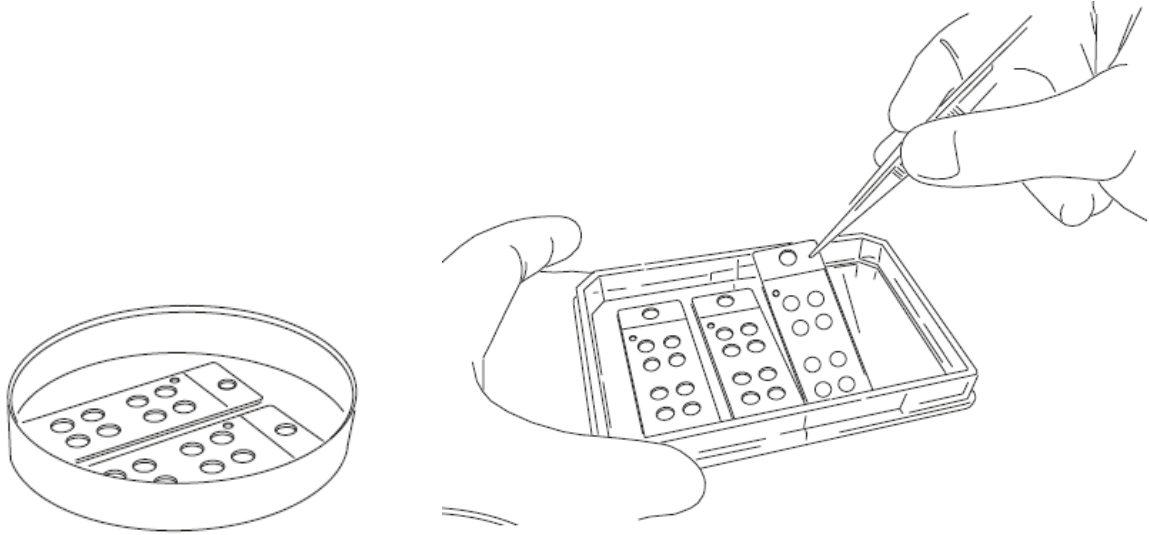

Figure 4
- Remove the lid from a CultureWell plate or sterile 100mm diameter culture dish. Place the coverslip into the plate or dish as shown in Figure 4 with the silicone gasketed wells facing up. Unused coverslips from opened pouches may be stored in sterile culture dishes to prevent contamination.